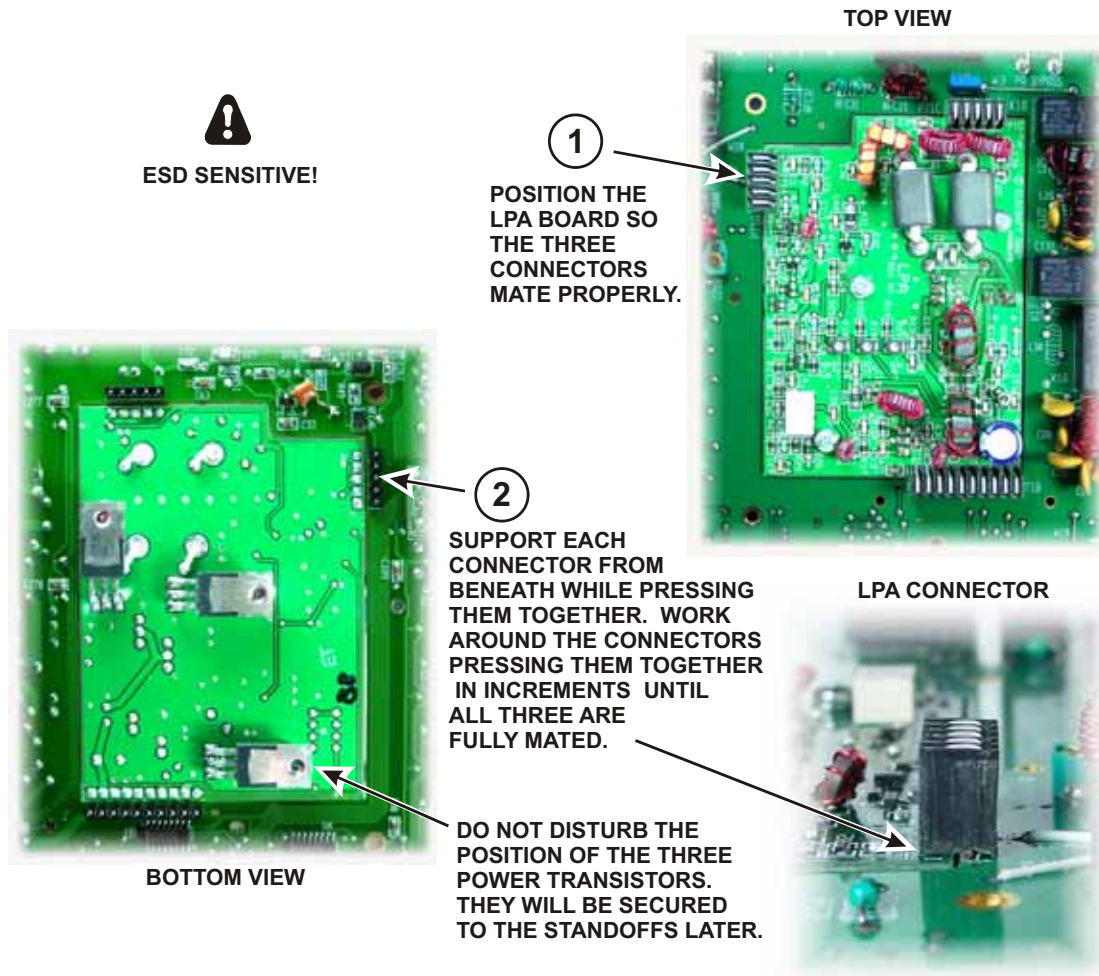

Figure 12. Installing the Low Power Amplifier (LPA).
□ Install the Low Power Amplifier (LPA) board in the cutout on the RF board as shown in Figure 12. The LPA board is held in place by its connectors until the bottom cover is installed..